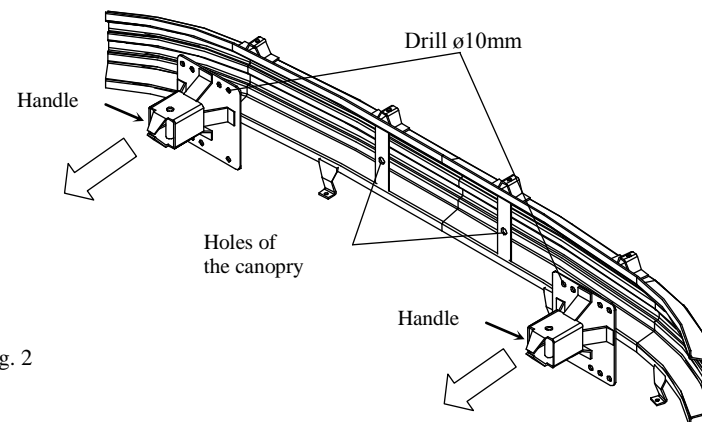

Fig. 2
1. Disassemble the bumper and metal canopy. From the metal canopy one ought to separate handles, therefore one ought to drill holes  $\varnothing 10\text{mm}$  in points of the pressure welding, as showed on the fig. 2. Fix the canopy to the bumper after separating the handles.